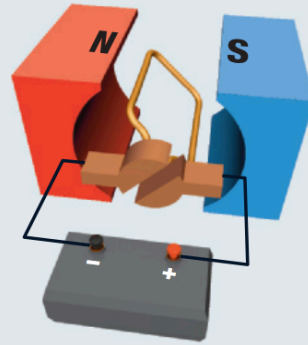

Figure 13
- Look at **Figure 13**. In which direction will the loop rotate? Explain your answer.